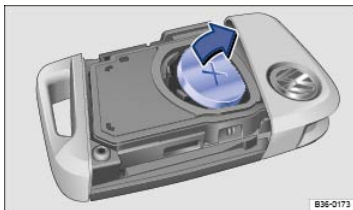

Fig. 51 Remote control vehicle key: Changing the battery.
- Use a thin object to pry the battery out of the battery compartment in the direction of the arrow → Fig. 51.
- Position the new battery with the + side facing up and press the battery carefully into the battery compartment (opposite direction of the arrow) → ①.